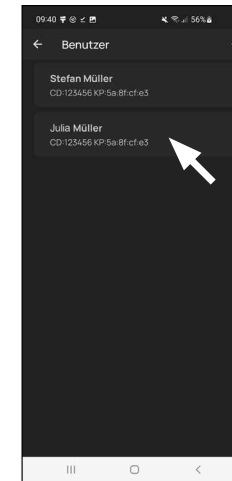

Fig. 7
**!** **Note:** If you wish to enter opening media for other users, go back one menu and select the respective user (Fig. 7). Repeat the steps in this chapter for this user.